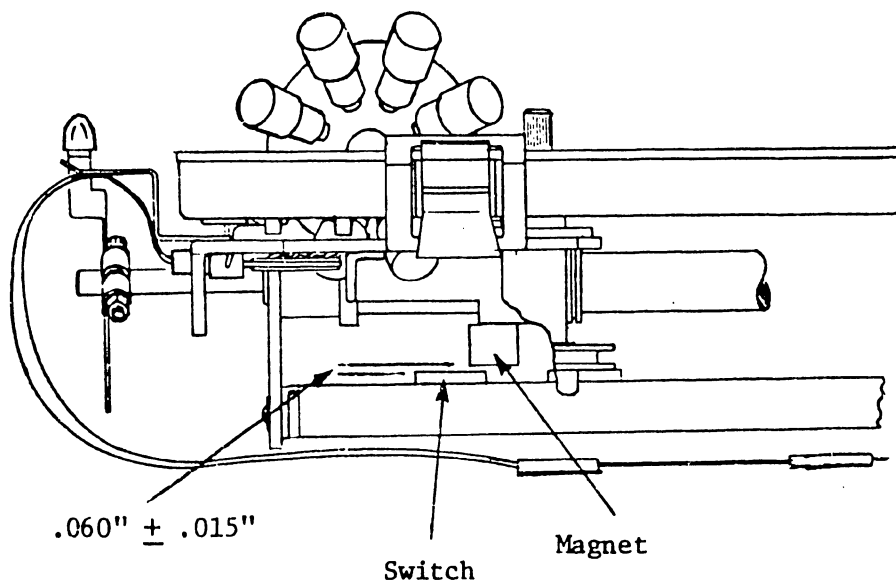

FIGURE 5-15 REED SWITCH MAGNET
- 2) Loosen the four screws holding the reed switch bracket to side frames and move assembly up or down to adjust for  $.060'' \pm .015''$  ( $.152 \text{ cm} \pm .038 \text{ cm}$ ) gap between magnet and reed switch packages (Figure 5-15).
### 5.3.8 Reed Switch Magnet (Figure 5-15)